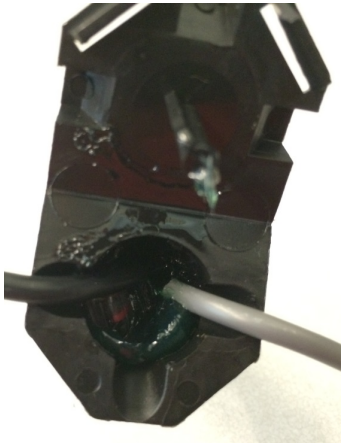

Figure 42 – Gray Wire in Slots
2. Separate each gray wire and place in the slots on each side as shown in Figure 42.